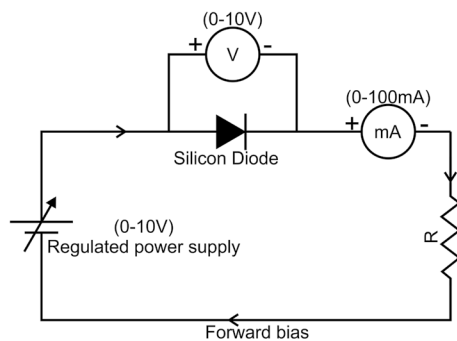

Fig P14.1
1. Connect the p-n Junction diode (Si/Ge) in forward bias as shown in Fig. P14.1.